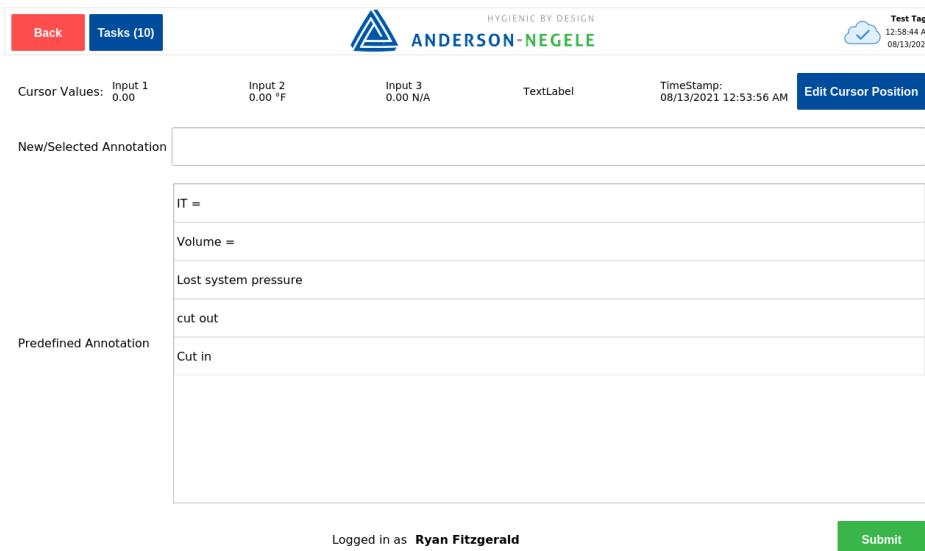

Figure 49: Pre-Configured Add Notes Annotations
7. Select from the list of pre-configured annotations See Figure 49